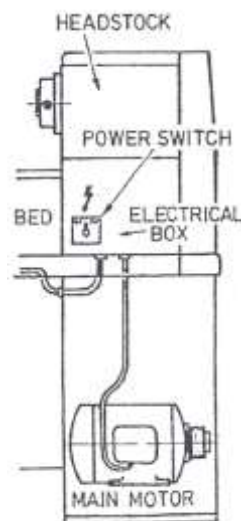

Fig 5
Position lathe on foundation and adjust each of the six mounting feet to take equal share of the load. Then using an engineer's precision level on the bedways (as in fig 5) Adjust the feet to level up machine. Periodically check level to ensure continued lathe accuracy. It is important to level the lathe failing to do so will decrease the accuracy of the lathe.
1. Move the power switch (fig5) set at "ON" position then the indicator lamp "glows"